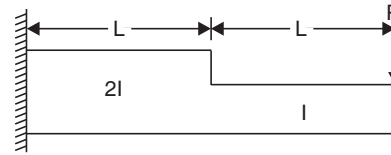

FIGURE 8.38
41. Determine the stiffness of the beam shown in Fig. 8.38 given below :